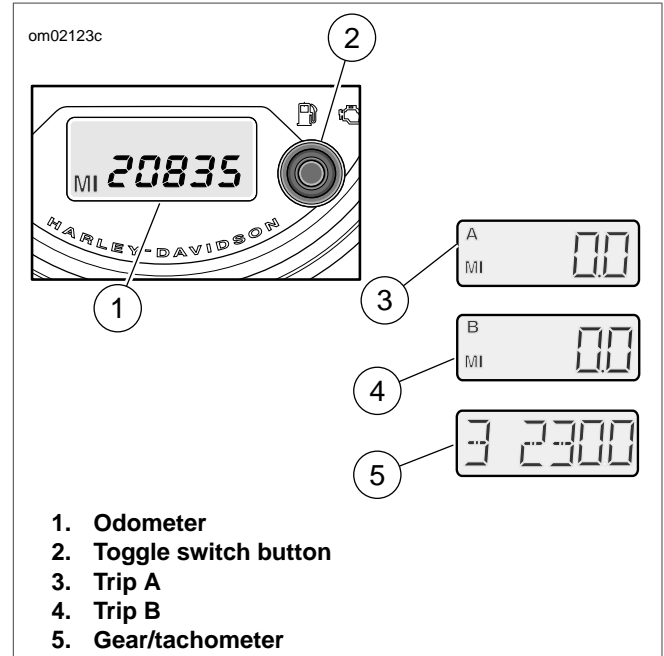

Figure 16. Gear/Tachometer/Odometer
See Figure 16. With the ignition on, press and release the toggle switch button to toggle through the odometer displays to the gear/tachometer display (5). The display shows the current gear selection and the engine speed in revolutions per minute (rpm).
See Figure 16. With the ignition on, press and release the toggle switch button (2) to toggle between the odometer (1), trip odometer A (3) and trip odometer B (4).